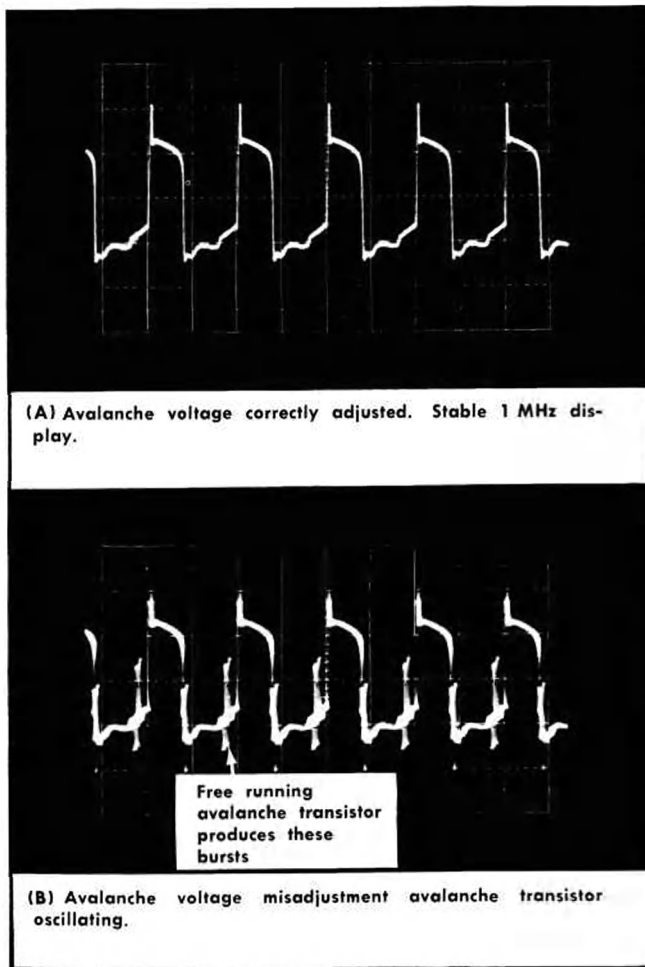

Fig. 5-17. Adjusting avalanche voltage.
c. **CHECK**—The display must show a stable 1 MHz output signal from the Type 1L40. See Fig. 5-17. If display is not stable, perform step (d).
wise until the avalanche transistor is slightly below the state of free running. Free running avalanche appears as an RF burst signal between the 1 MHz pulses as shown in Fig. 5-17. With the INT REF FREQ control turned to the OFF position, the free running avalanche transistor signal feeds through to the output connector and appears as a 2 MHz burst signal on the test oscilloscope. If free running avalanche does not occur, turn the adjustment fully clockwise.